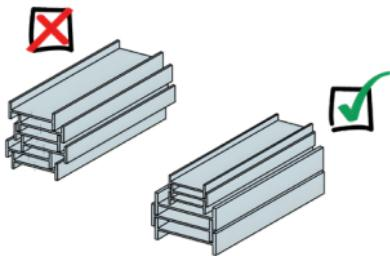

Figure 17. Stack widest beam at base.
- Stack frames and beams with the widest on the bottom and the narrowest on top (Figure 17).